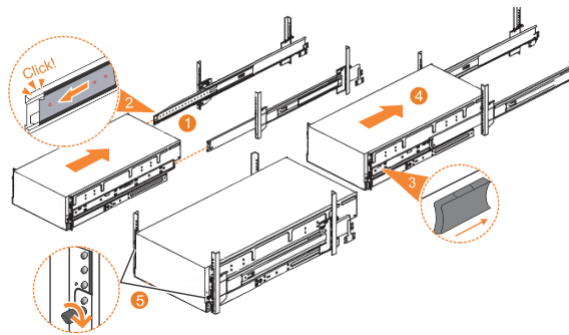

Figure 50. Replacing the 5U enclosure in the rack
1. Fully extend the left and right drawer sections from the rack to lock the rails in the extended position (1 in Figure 50 on page 90).
2. Ensure that the ball bearing retainer clicks into place inside the front of the left and right drawer sections (2 in Figure 50 on page 90).
6. Locate the left and right blue release tabs near the front of the enclosure. Press both release tabs forward to unlock the drawer mechanism (3 in Figure 50 on page 90).
7. Push the enclosure firmly into the rack (4 in Figure 50 on page 90).
8. Tighten the locking thumb screws (5 in Figure 50 on page 90) to secure the enclosure in the rack.